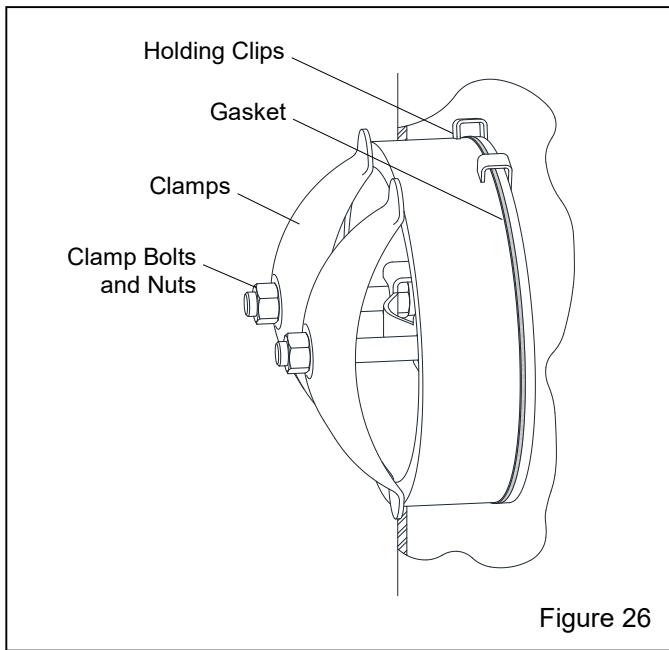

Figure 26
7.3 Removing and Installing the Manway Cover – Figure 26